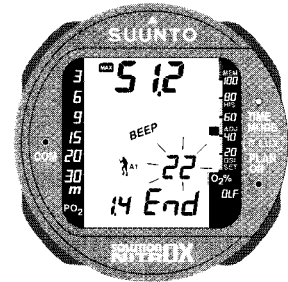

Fig. 4.12 OXYGEN AND PERSONAL/ALTITUDE ADJUSTMENT SETTING
- the $O_2\%$ adjustment increases by 1% increments from 21% to 50% or from the present value to 50%, 21%, 22% etc. (Fig. 4.12) .